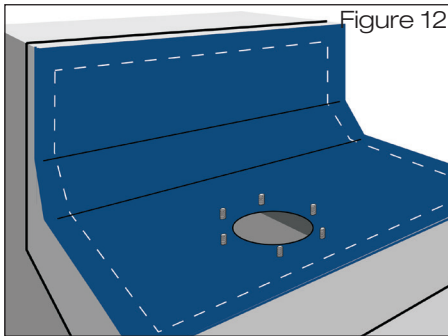

Figure 12
2.4 Unroll the second layer of the **roof sealing sheet** over the drain. Use a hole punch to make 14 mm diameter holes in the roof sealing sheet for the threaded bolts to pass through. The loose flange can be used as a template (Fig. 12). Roll back the second layer of the roof sealing sheet, weld the connecting sheet and the second layer of the roof sealing sheet in accordance with the laying instructions from the manufacturer of the roof sealing sheet.